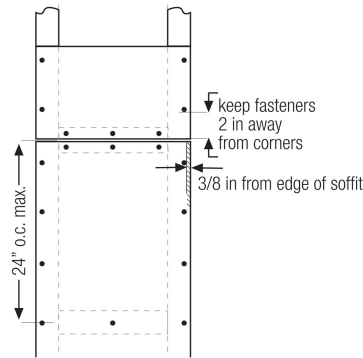
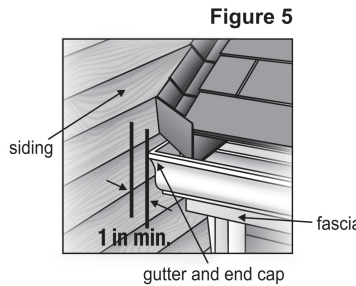

**Figure 3**
**Figure 4**
- All edges must be supported by framing, (figs. 3 & 4)
- Position fasteners 3/8 in from panel edges and no closer than 2 in away from corners when using soffit greater than 12 in wide (fig. 4) and no closer than 1 in away from corners when using soffit that is less than or equal to 12 in wide (fig. 3).